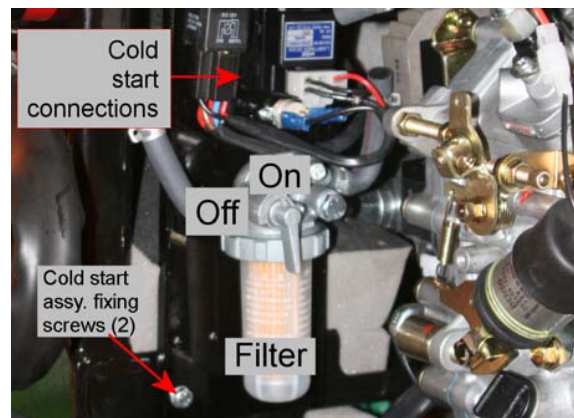

Fig 5-5 Cold start and filter
- Remove the two Cold Start Assy fixing screws (Fig 5-5). Move this assembly to one side to gain access to the pump.